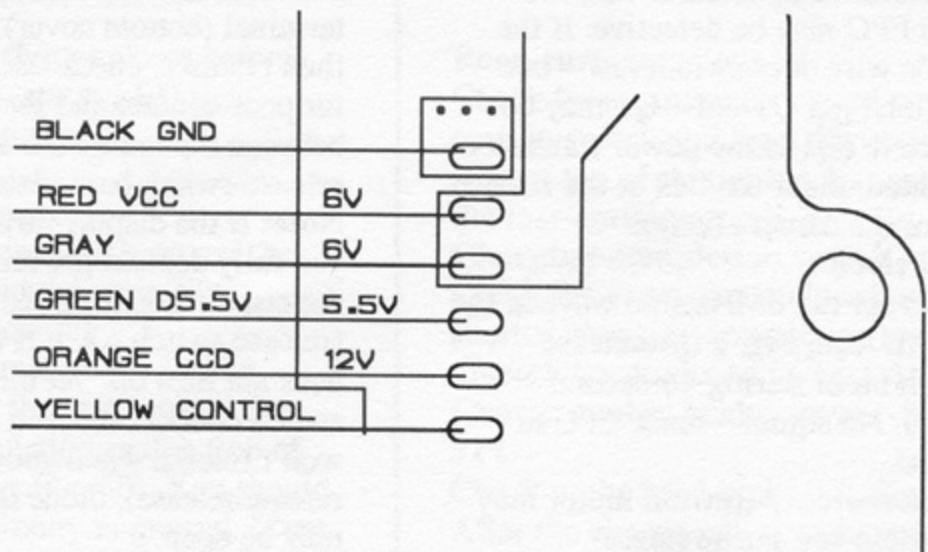

FIG. 49 FRONT OF MAIN FPC, MIRROR BOX REMOVED
- Check at the DC/DC-converter wires, front of main FPC at release end, Fig. 49.